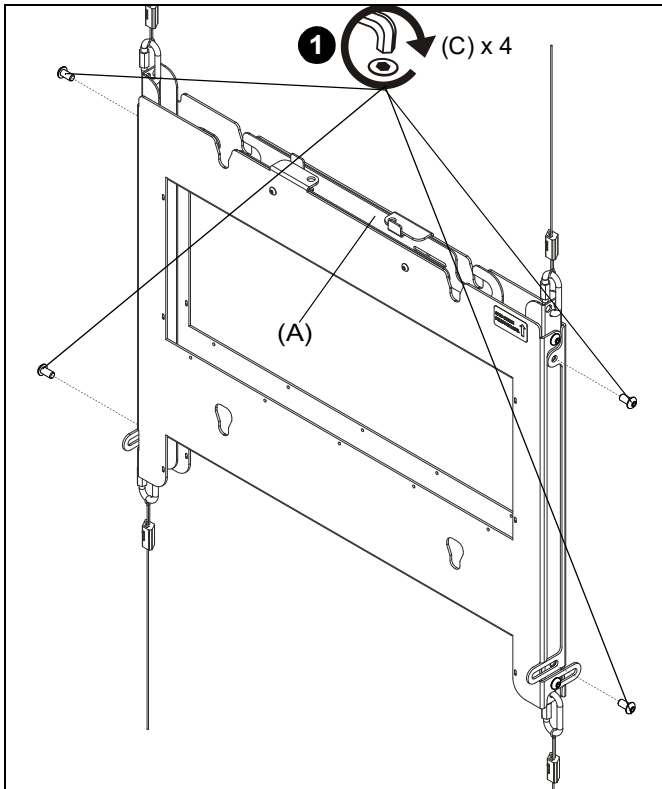
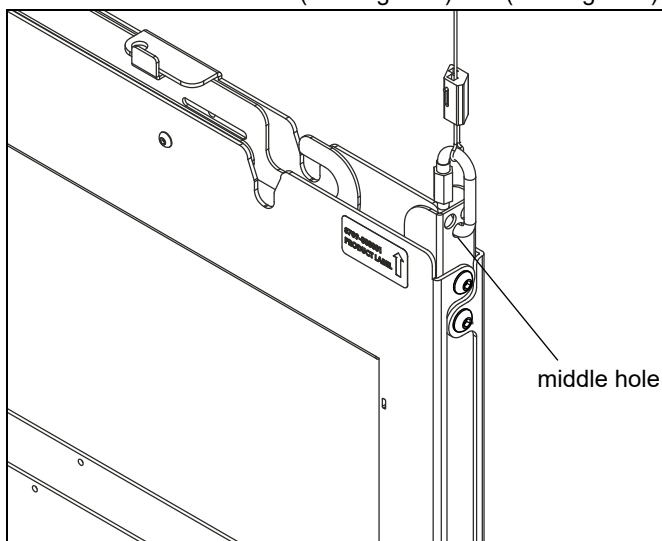

Figure 1
Figure 2
1. Use four #10-24 x 1/2" button head cap screws (C) to secure PACFCB accessory to FSC1U outer frames. (See Figure 1)
2. Attach cables to top of FSC1U outer frames as shown in FSC1U instructions but use middle of three holes to attach cables to outer frames. (See Figure 1) and (See Figure 2)